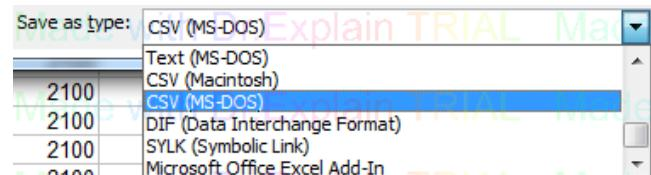

Figure 2
10. Once Complete, click "Save As" a ".CSV" file which is plain text with comma separated variables (*Figure 2*)